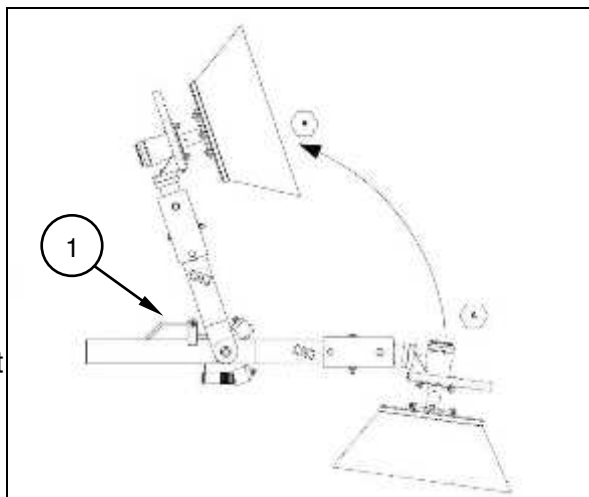

Fig. 4.8
- Swing side brush (Fig 4.8) upwards and secure (1).